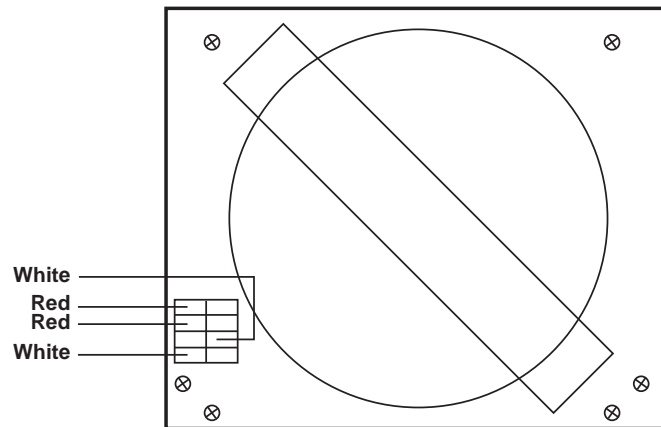

Figure 51: Fan Mounting Plate
3. Disconnect the fan power supply wires from the control power transformer (**White**) and from the thermal switch (**Red**). See Figure 51.